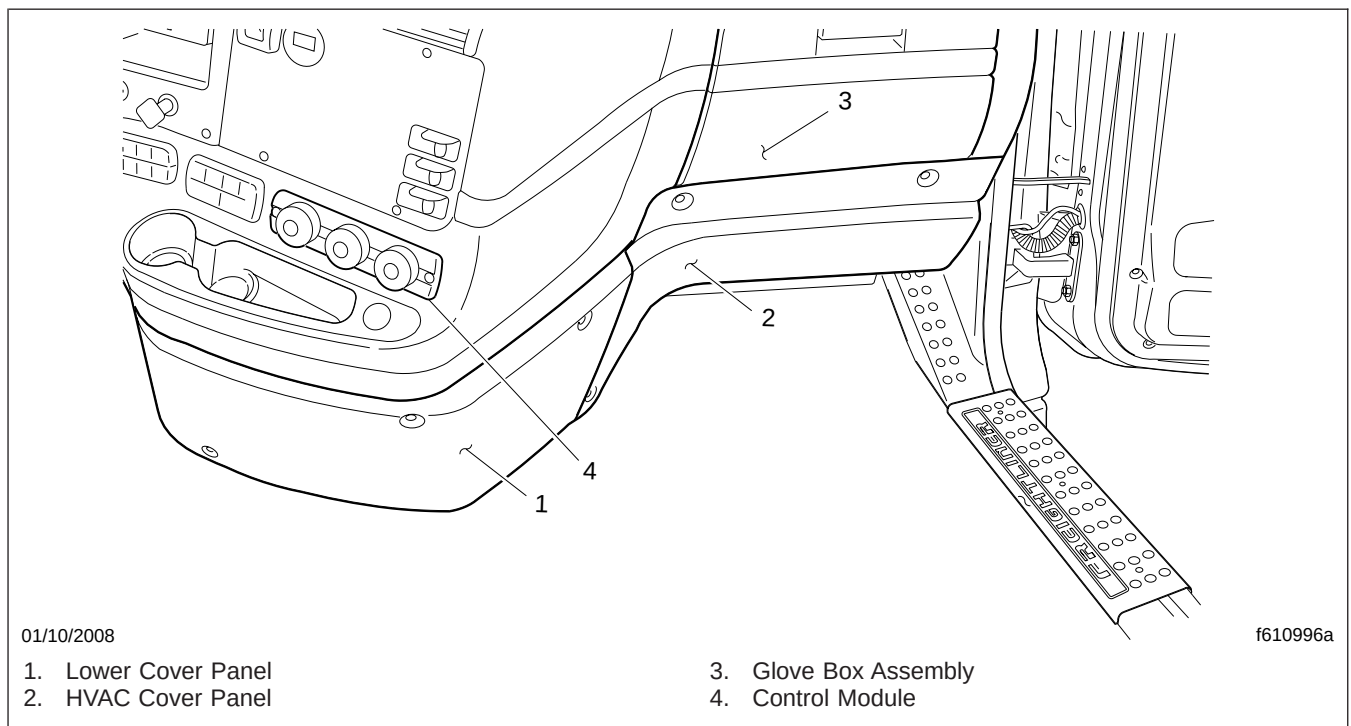
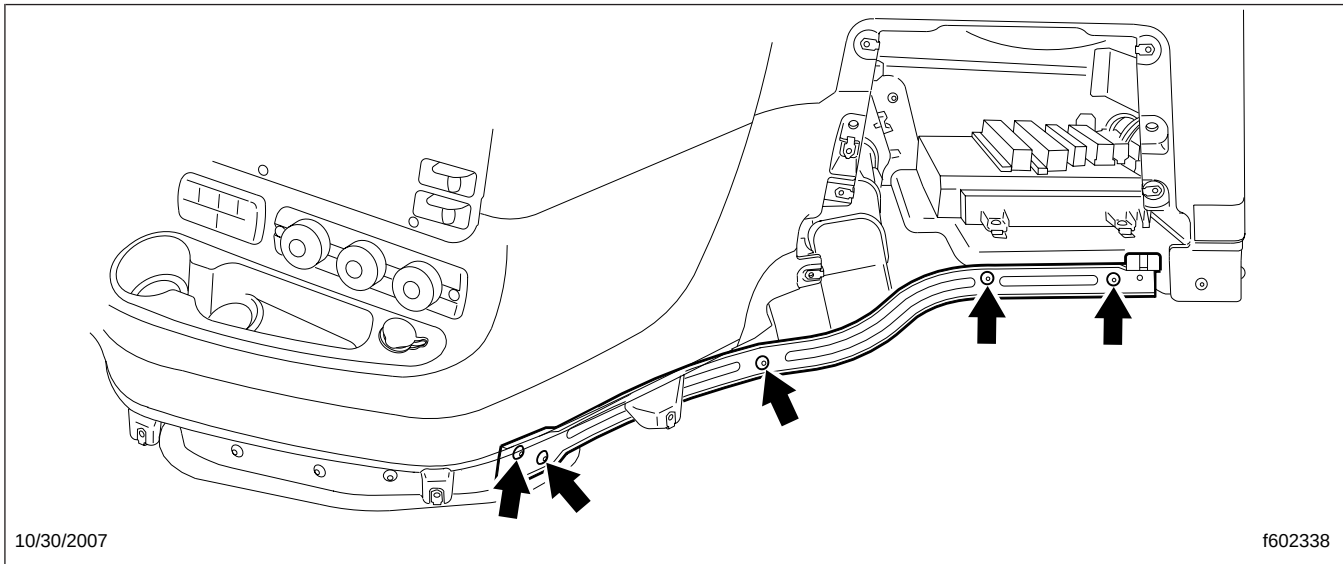

Fig. 1, Access Panels
Fig. 2, Glove Box Brace
5. Remove the dash access panels and supports listed below. See Fig. 1 and Fig. 2. See Section 60.06 for instructions.